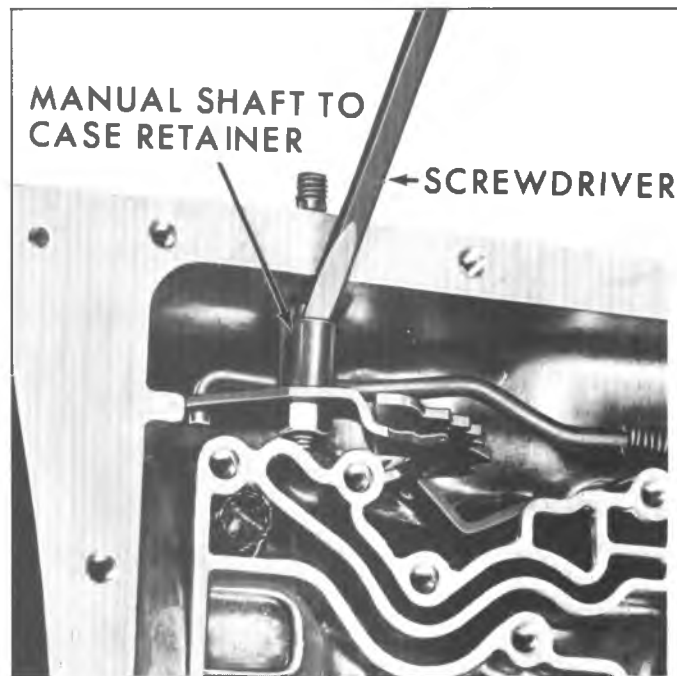

Fig. 18M--Removing Manual Shaft to Case Retainer
8. Remove manual shaft to case retainer with screwdriver (fig. 18M).